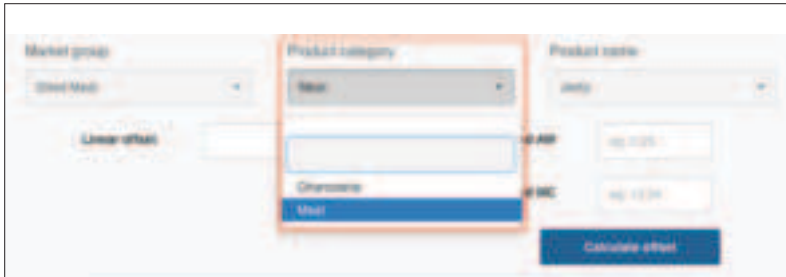

Figure 16 Product category
- c. Under Product name, select the product category that most closely matches the product being measured (Figure 16).